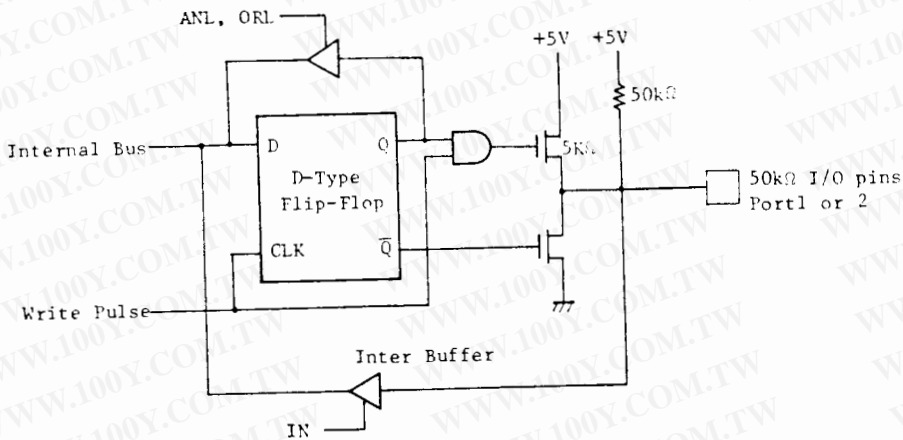

Fig.1 Input/Output Circuit of Port 1, Port 2
- All lines of Ports 1 and 2 are called quasi-bidirectional because of a special output circuit structure (illustrated in Figure 1). Each line is continuously pulled to a +5V level through a high impedance resistive device (50k $\Omega$ ) which is sufficient to provide the source current for a TTL high level yet can be pulled low by a standard TTL gate thus allowing the same pin to be used for both input and output. In order to speed up the "0" to "1" transition a low impedance device (5k $\Omega$ ) is switched in momentarily whenever a "1" is written to line. When a "0" is written to line a low impedance device overcomes the pullup and provides TTL current sinking capability.